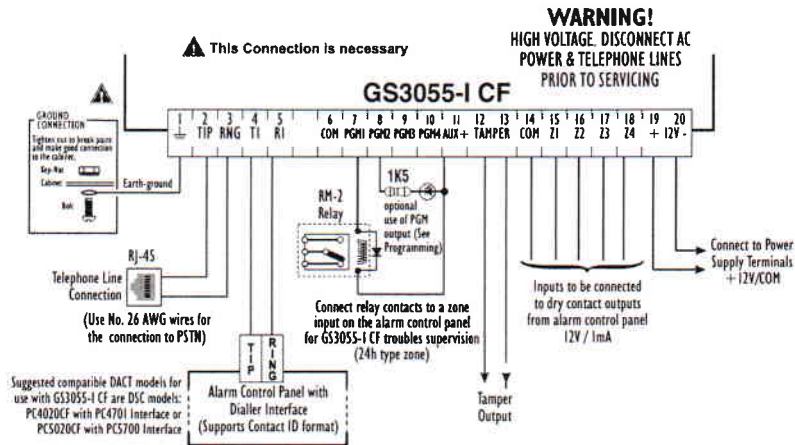

Fig. 2 - GS3055-I CF Module Wiring Diagram
9	GS3055-I CF Connections (see Fig. 2 for details)
**NOTE: Please refer to Figures 2 and 3 at the end of this manual for wiring diagrams.**